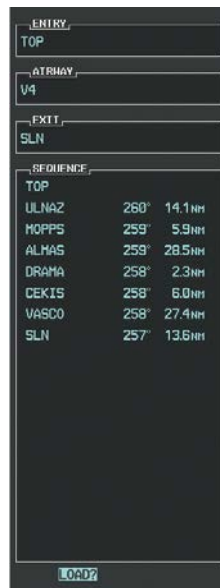

Figure 5-119 Ready to Load V4
j) Press the **ENT** Key. The selected airway and exit are displayed, and the prompt “LOAD?” highlighted as in Figure 5-119.